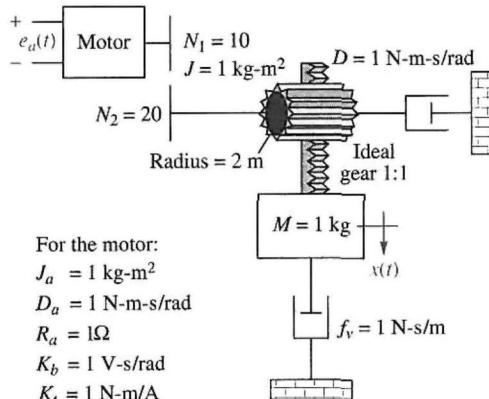

FIGURE P2.31
46. Find the transfer function, $G(s) = X(s)/E_a(s)$, for the system shown in Figure P2.31. [Sections: 2.5–2.8]